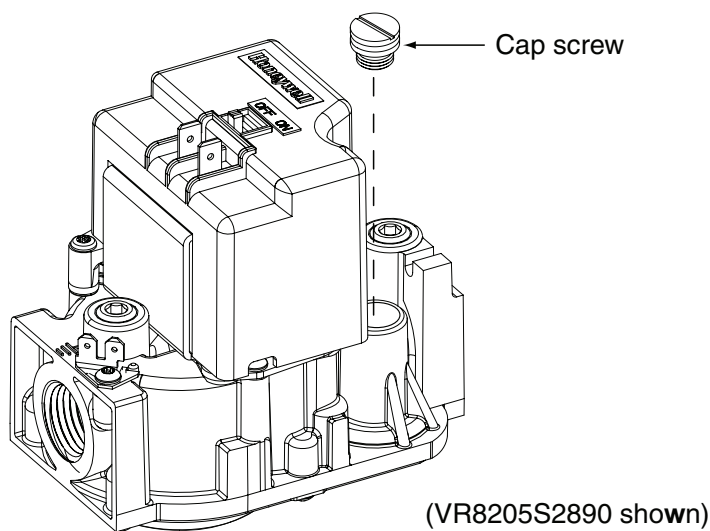
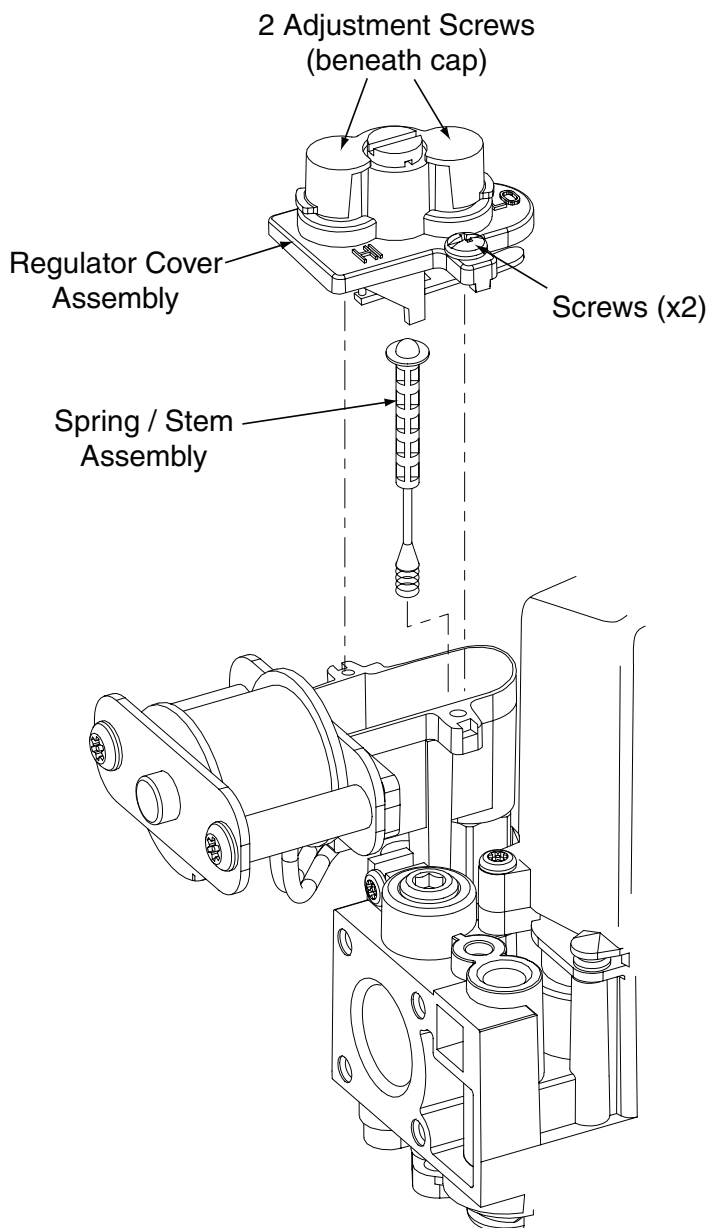
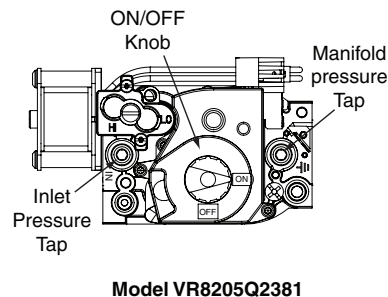

Figure 2. Cap Screw Removal
Figure 4. Spring / Stem Assembly Removal
Fig. 9. Inlet & Manifold Pressure Tap Locations
1. Remove the cap screw from the gas valve as shown in Figure 2.
1. Remove two screws securing the pressure regulator cover assembly to the gas valve. Do not discard the screws. See Figure 4.
4. Place the gas valve ON/OFF switch/knob to the ON position. See Figure 9.
3. Using a 3/16" Allen wrench, remove the manifold pressure tap plug located on the outlet side of the gas valve. See Figure 9.
1. Single stage gas valve: Remove the cap screw from the top of the gas valve regulator. See Figure 2 (page 4) for VR8205S2890 or VR8215S1289 models.
2-stage gas valve: For VR8205Q2381 models, remove the plastic cap covering the adjustment screws (Figure 4 page 4).
2. Using a screwdriver or Allen wrench (where appropriate), slowly turn the adjustment screw till the appropriate manifold pressure listed in Table 2 is achieved. See Figure 2 for VR8205S2890 or VR8215S1289 models. See Figure 4 for VR8205Q2381 models or Figure 9 for VR9205Q1127 models.